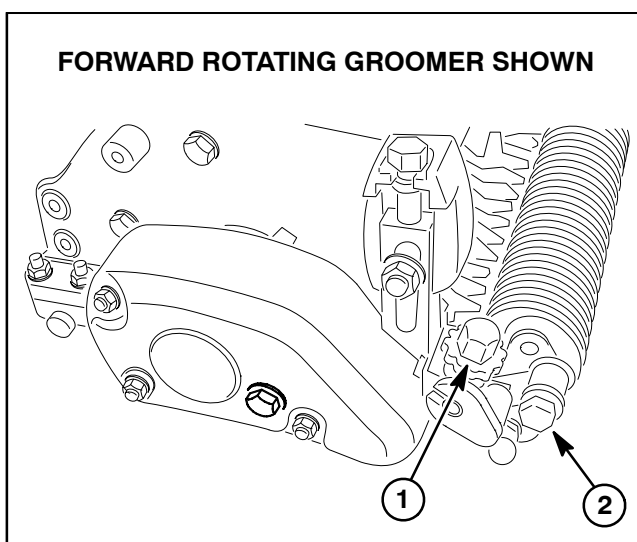

Figure 1
3. Position the grooming reel to the lowered, grooming position (Fig. 1).
4. On one end of the grooming reel, measure the distance from the lowest tip of the groomer blade to the working surface. Lift and turn height adjustment knob to raise or lower the blade tip (Fig. 1). Each notch on the adjustment knob changes the groomer height approximately 0.003 inch (0.08 mm).